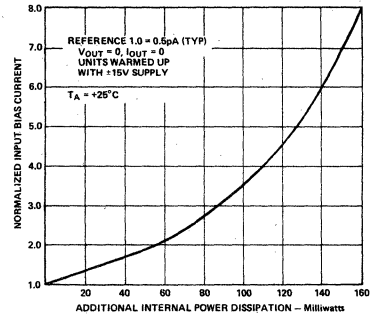

Figure 9. Input Bias Current Versus Addition Power Dissipation
3. Output loading effects, which are normally ignored, can cause a significant increase in chip temperature and therefore bias current. For example, a 2kΩ load driven at 10 volts at the output will cause at least an additional 25 milliwatts dissipation in the output stage (and some in other stages) over the typical 24 milliwatts, thereby at least doubling the effects of self-heating. The results of this form of additional power dissipation are demonstrated in Figure 9, which shows normalized input bias current versus additional power dissipated; we recommend restricting the load impedance to be at least 10kΩ.